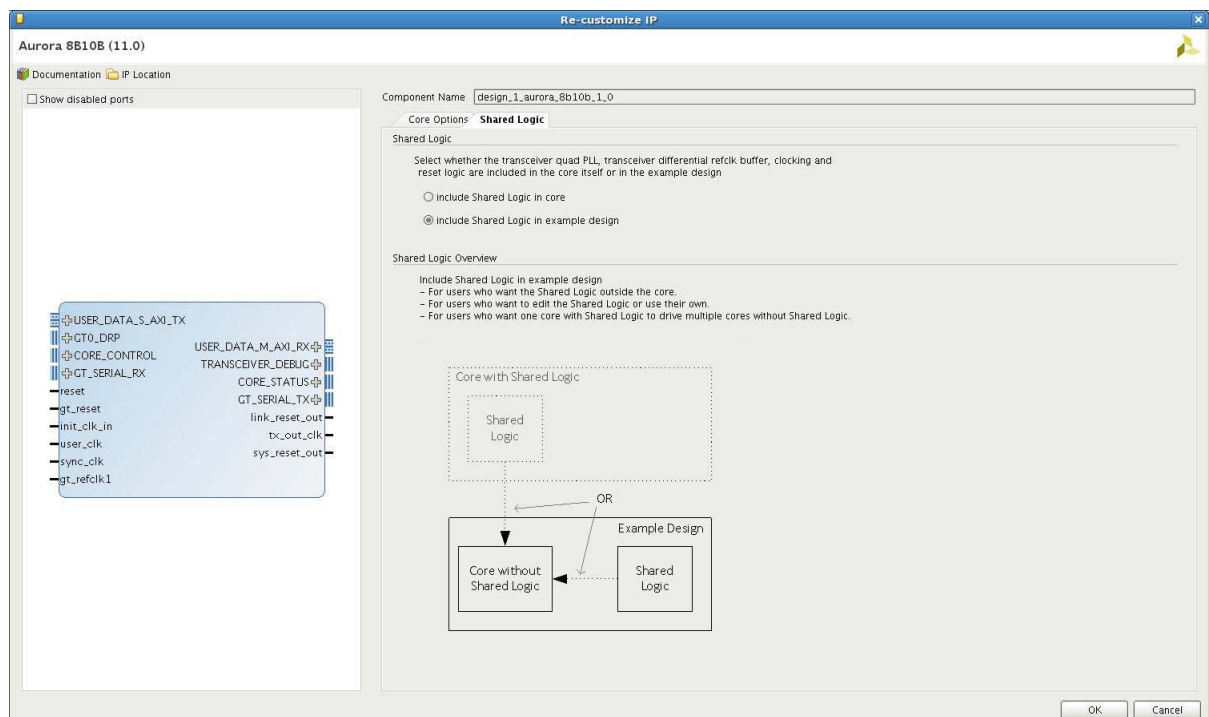

Figure 5-7: Shared Logic
16. Select **Include Shared Logic in Example Design** as shown in Figure 5-7.